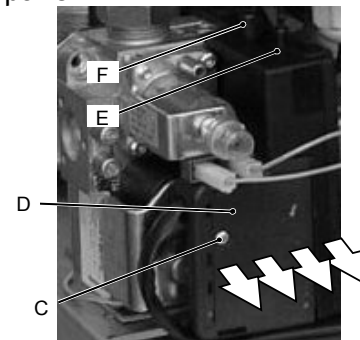

Figure 2
- 2) Unscrew the screw C and remove protection cover D of the connection; disconnect flame detection cable E and ignition cable F (Figure 2).
- 4) Pull the ignition device out, pulling it frontally (follow the arrows on Figure 2).